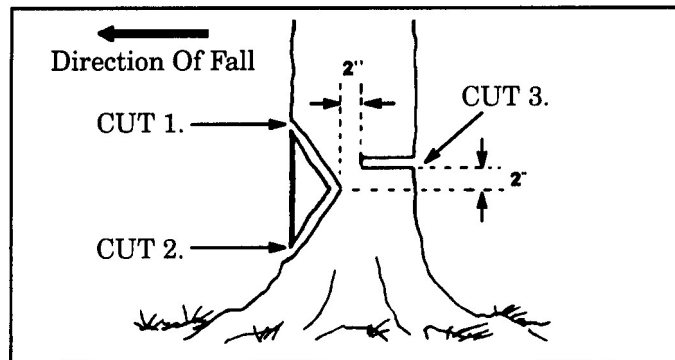

Figure 19
NOTE: If the tree has large buttress roots, remove them before making the notch. Cut into the buttresses vertically, then horizontally. Figure 19.
- Make the notch cut. Figure 19.
- CUT 3. Make the felling cut on the opposite side of the notch about 2" higher than the center of the notch. Figure 19.